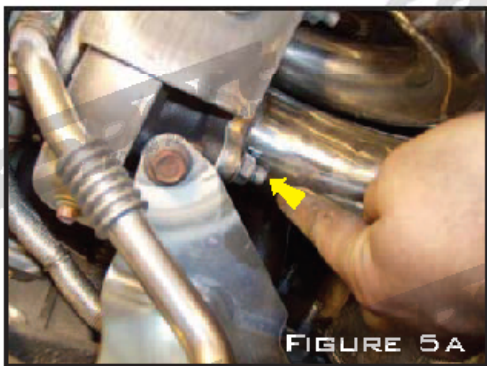

FIGURE 5A
A. FROM THE BOTTOM OF THE CAR INSTALL THE NEW CORKSPORT DOWNPIPE ONTO THE STUDS OF THE TURBO WITH THE ORIGINAL OR NEW BASKET. PUT SOME ANTI SEIZE ON THE STUDS TO MAKE INSTALLATION OF THE NUTS EASIER. ONCE THE DOWNPIPE IS ON THE STUDS INSTALL ONE NUT ON THE LOWER-FORWARD STUD SHOWN IN FIGURE 5A. YOU MUST INSTALL THIS NUT BEFORE TIGHTENING THE REST OR THERE WILL NOT BE ENOUGH CLEARANCE BETWEEN THE DOWNPIPE AND STUD TO INSERT THE NUT. TIGHTEN TO 39-46 FT/LBS.